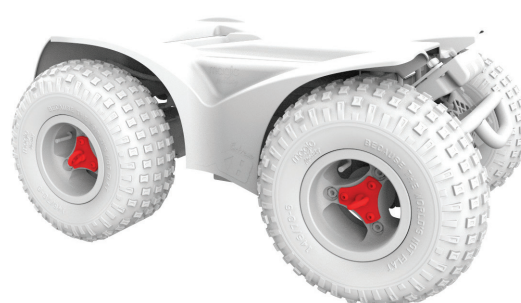

Figure 5.2d Extreme X8 lifting points (sold separately)
**Extreme X8:** The tie down rings CAN'T be used to lift the powerchair as damage may occur to your powered seating. A lifting ring kit is available separately as show in Figure 5.2d.